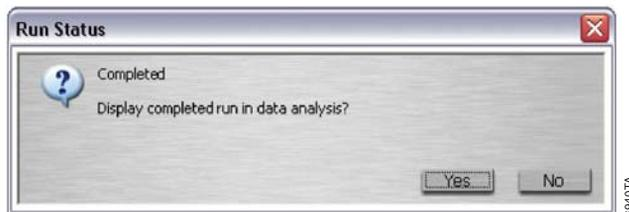
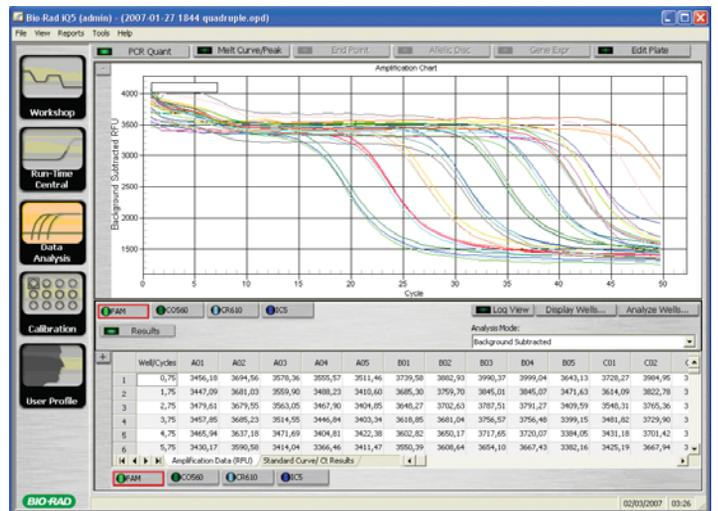

Figure 12. The iQ™5 Run Status window.
Figure 13. The PCR Quant tab of the iQ™5 Data Analysis module. Results view is selected; the Amplification Data (RFU) spreadsheet is displayed.
1. Upon completing the run, the iQ™5 optical system software will open a Run Status window (Figure 12). Choose “Yes” to display the completed run in the Data Analysis module. An automated analysis will be conducted, and the data will be presented in the PCR Quant tab of the Data Analysis module (Figure 13).
11. Return to the PCR Quant tab of the Data Analysis module in the iQTM5 optical system software (Figure 13). Select the Amplification Data/RFU tab in the results spreadsheet for the first dye.